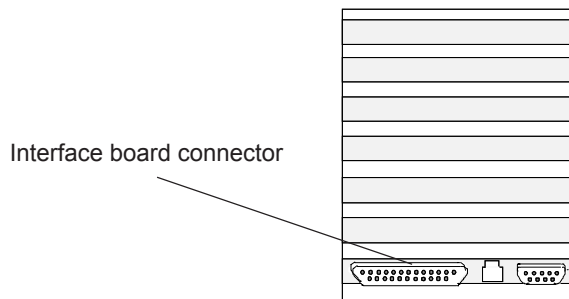

Figure 5 Interface Board Connector
2. Referring to Figure 5 below, locate the interface board connector on the back of the Tekmar instrument.